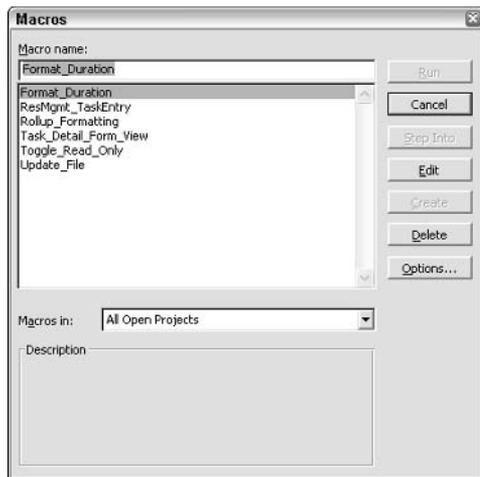

Figure 24-16: The Macros dialog box.
2. Choose **Tools** → **Macro** → **Macros** to open the Macros dialog box, as shown in Figure 24-16.